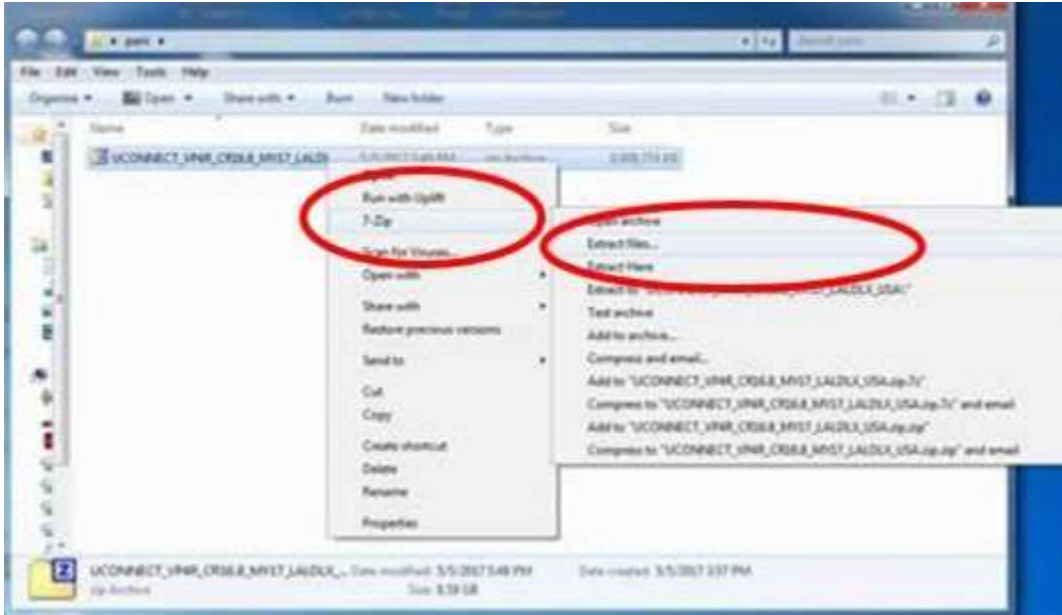

Fig. 4
- 8. Extract the downloaded zip file to the designated USB flash drive (Fig. 4) and (Fig. 5) .